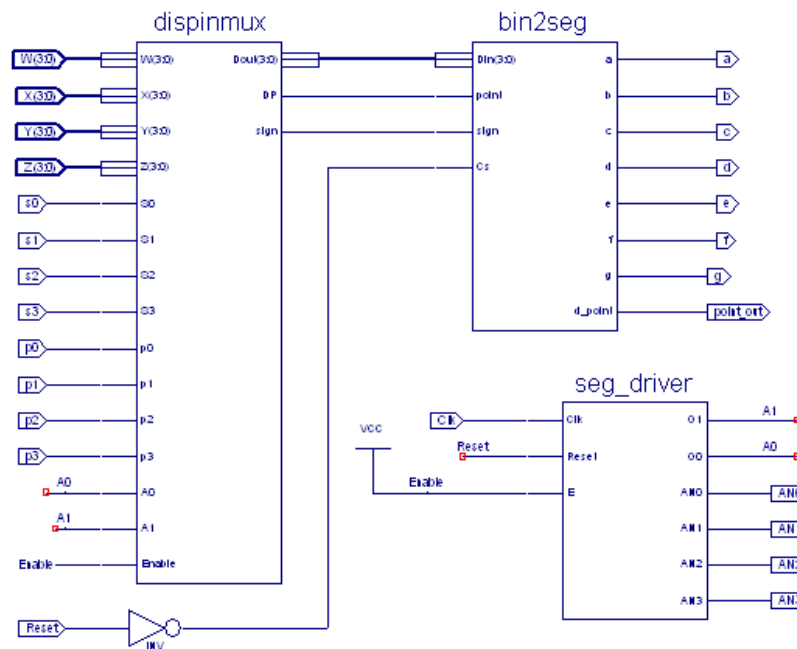

Figure 14
20. Create a new schematic file and put the circuit in Figure 14 together.